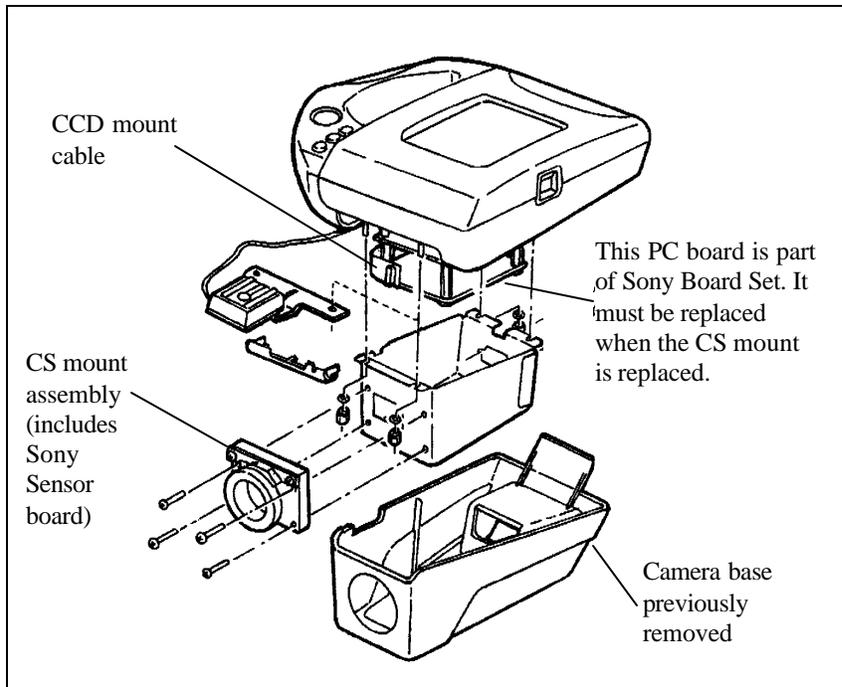

Figure 4- 10 Removing the CS mount assembly
2. Remove four Phillips head screws which secure the CS mount assembly to the metal can. (Figure 4- 10)